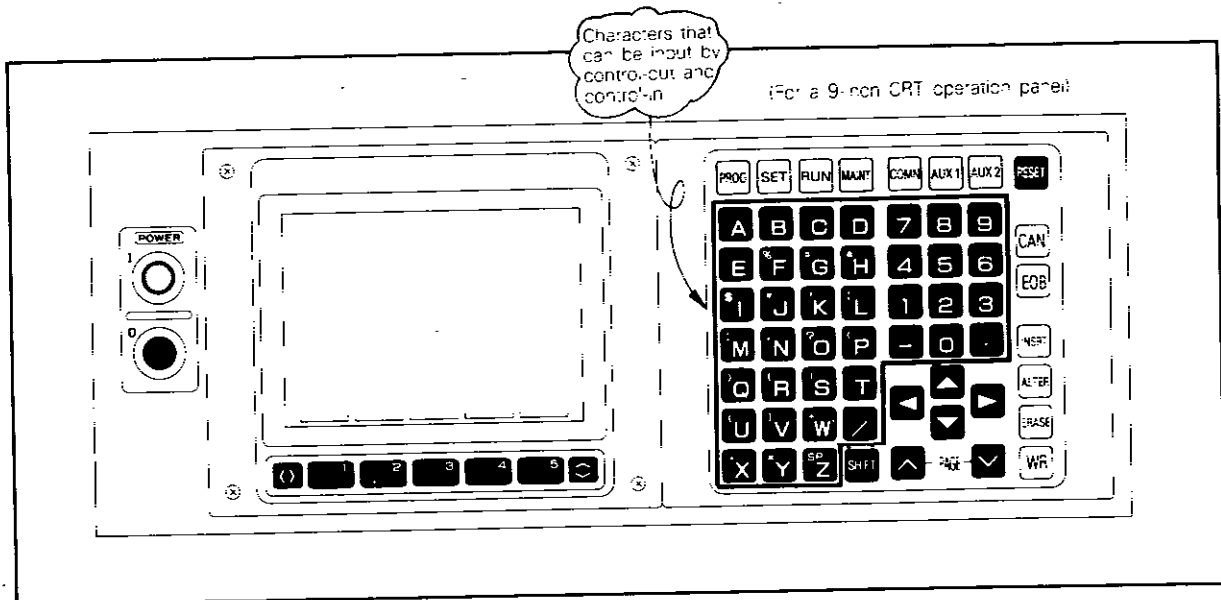

Fig. 2.2.6 Characters That Can Be Entered by Control-out and Control-in
1. Characters can be entered between control-out and control-in by using the keys that are enclosed by line in Fig. 2.2.6.